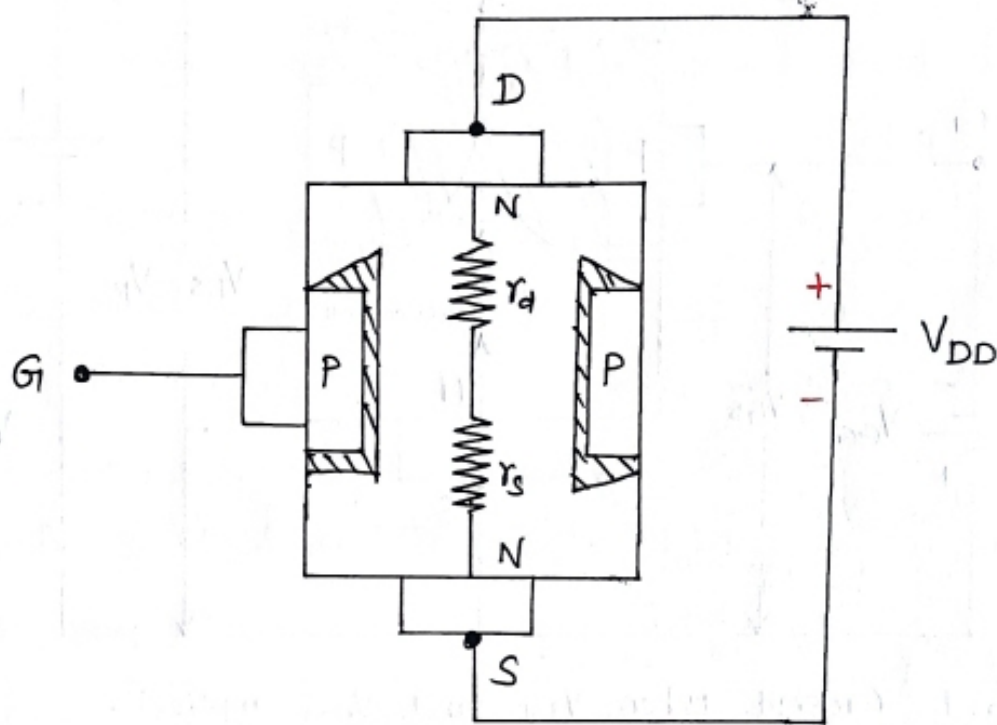

Fig. 5. Circuit when V_{DD} is applied
a) When No Voltage is applied to Gate (G) i.e., $V_{GG} = 0$ and V_{DD} is applied between Source (S) and Drain (D)
* The electron will flow from Source (S) to Drain (D) through the channel, constituting Drain Current (I_D).
b) The Channel Resistance are represented as ' r_d ' and ' r_s ' as shown in fig. 5 and its magnitude depends on " V_{DD} " and " V_{GG} "